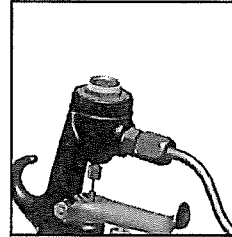

Fig. 37
2. Insert the gun into a clamping vise with fluid nozzle facing directly upwards. (See fig 37) Gun should be securely clamped at the upper portion of the gun handle.